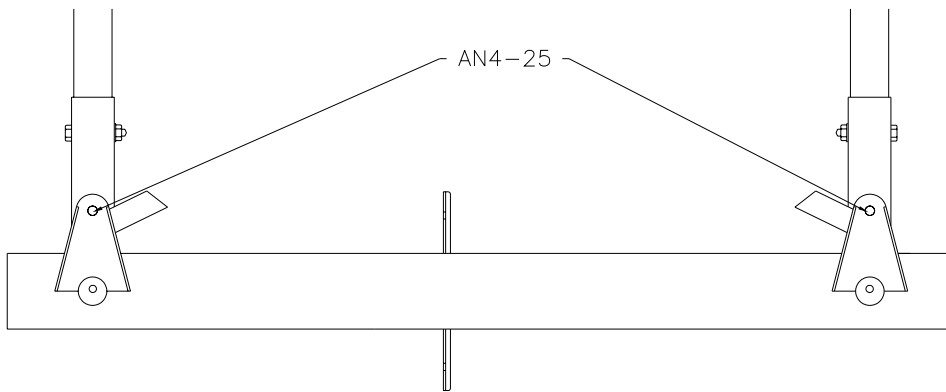

Figure 20.3.4
5) Attach the Control Sticks to the Torque Tube (CC-35) with AN4-25 bolts, AN960-416 washers, AN310-4 castle nuts and MS24665-132 cotter pins. Figure 20.3.4.